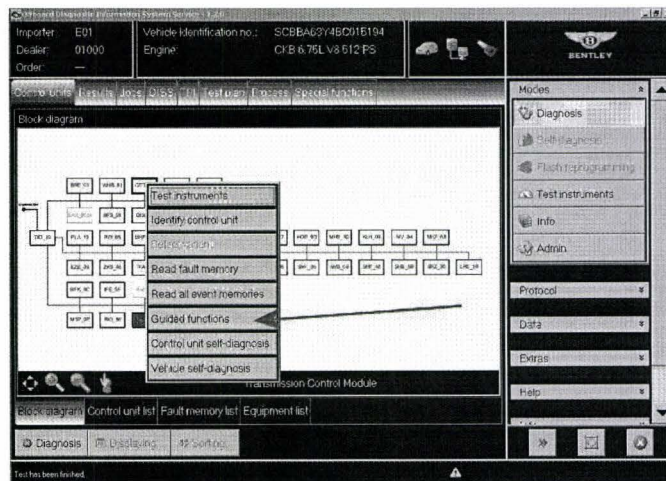

Figure 14
- Referring to Figure 14 – Select Guided Functions